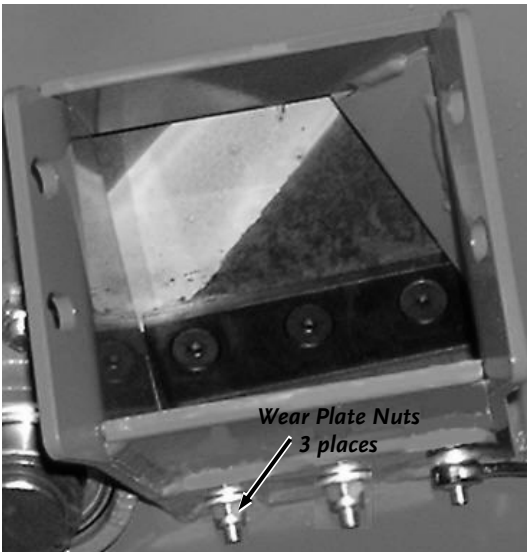

Figure 26
4. To adjust the Wear Plate Gap, loosen the three 1/4" Nuts using a 7/16" Wrench (**Figure 26**). Now slide the Wear Plate up or down (in or out) to achieve the correct gap setting.